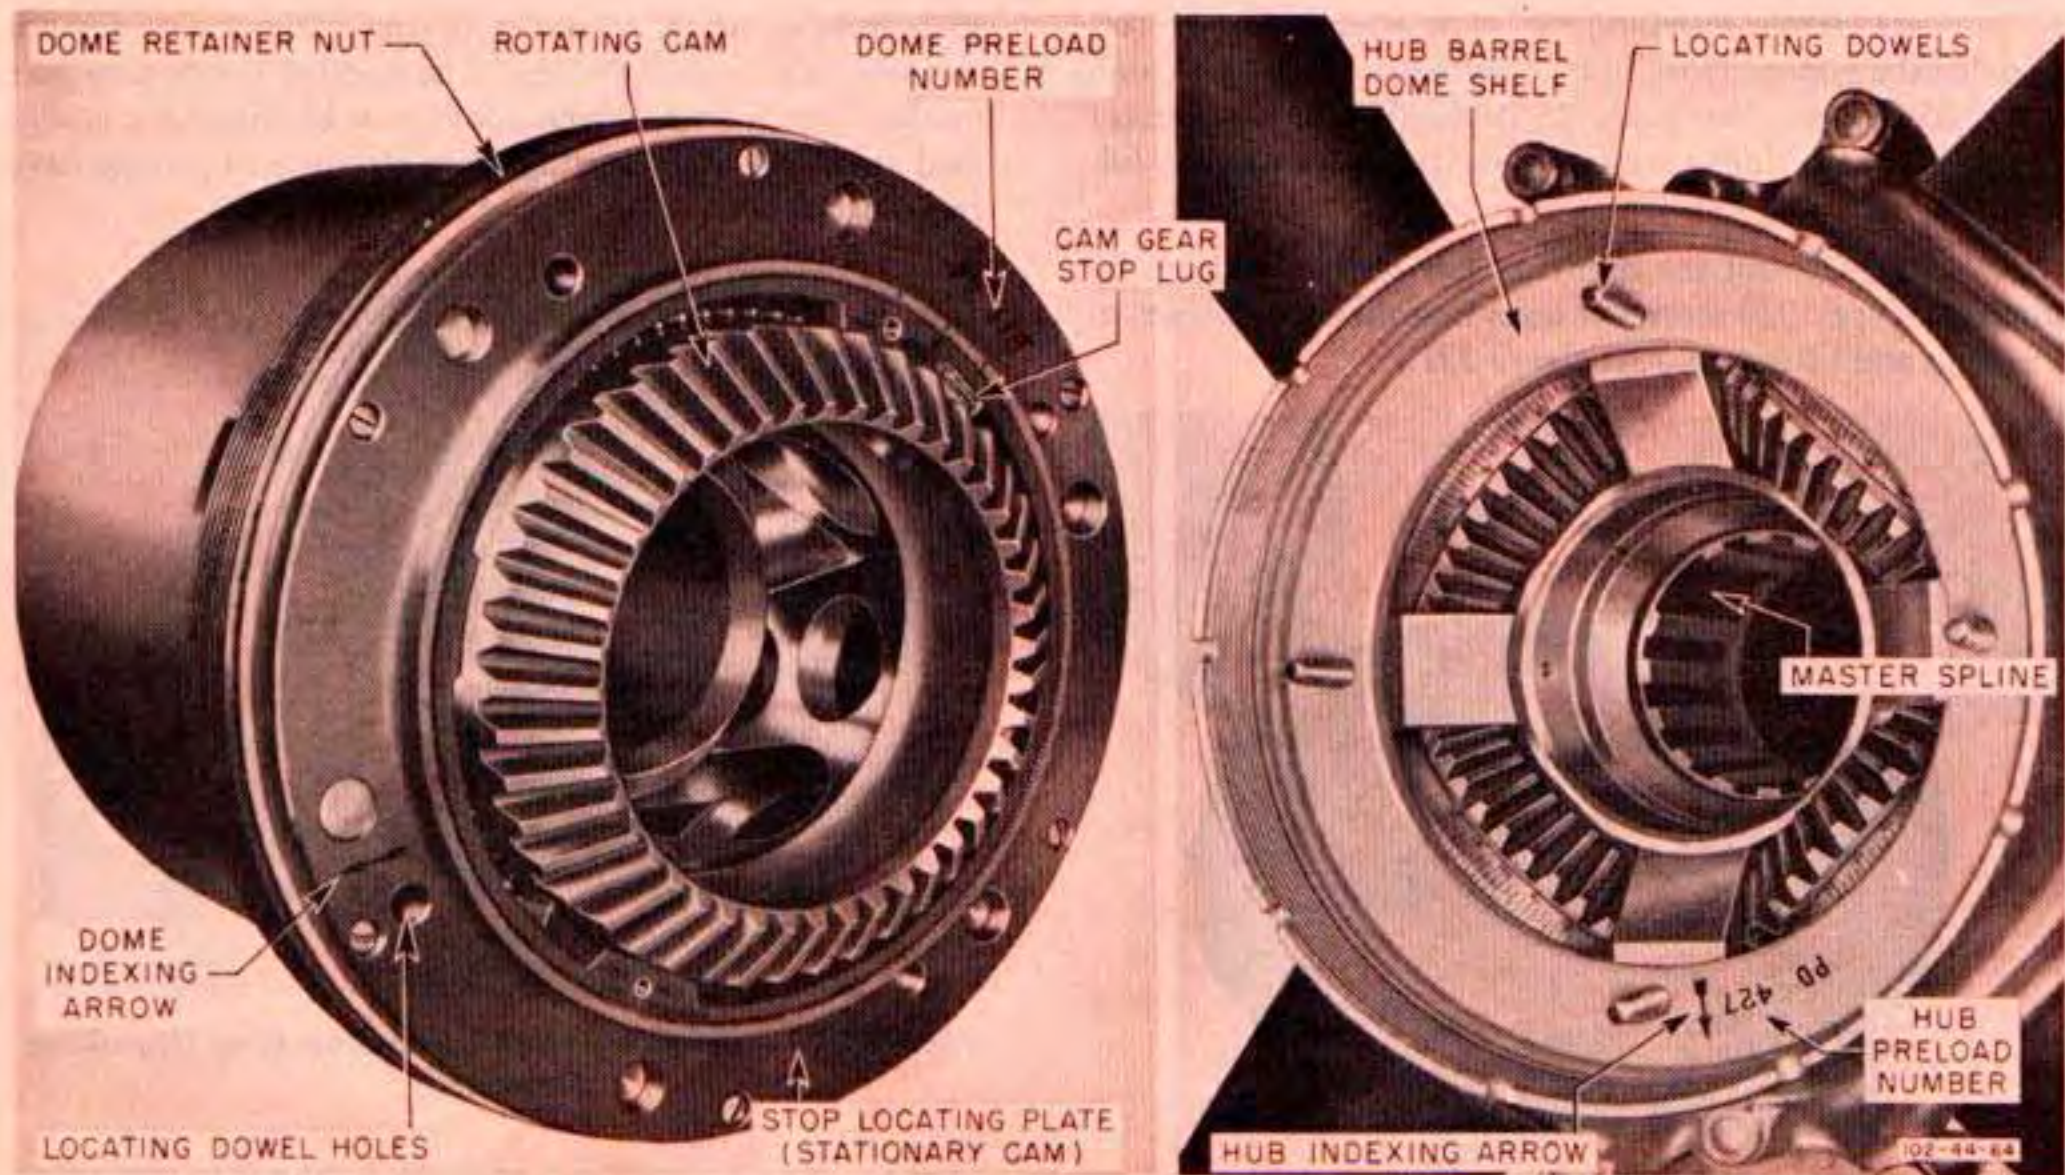

Figure 225—Propeller Dome and Hub (Hamilton Standard)
1. Check the gear preload by inspecting the PD numbers on the stop locating plate at the base of the dome, and on the barrel dome shelf of the hub. (See figure 225.) The PD numbers indicate the dome and hub preload in thousandths of an inch.